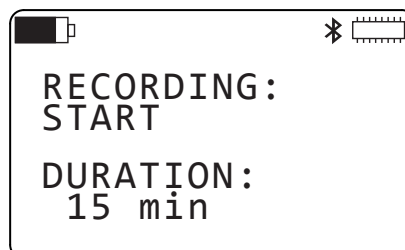

Figure 32: Recording and Duration screen
2. At the Sample Period and Storage Period screen press ▲ once. This returns you to the Recording and Duration screen (Figure 32). Note the Duration field on this screen. This specifies how long the recording session will run. By default (assuming no session has been already scheduled), this is 15 minutes. In addition, the Duration setting cannot be shorter than the Storage Period setting (see § 5.3). To change this duration setting, press ← to initiate selection mode, and press ▼ to select the Duration field. Then press ← to start edit mode, and use the buttons to enter a duration period.
- You now have two options for defining when the recording session ends. One is by setting the Duration field in the Recording and Duration screen (see Figure 32). The other is through the Stop Date/Time screen.